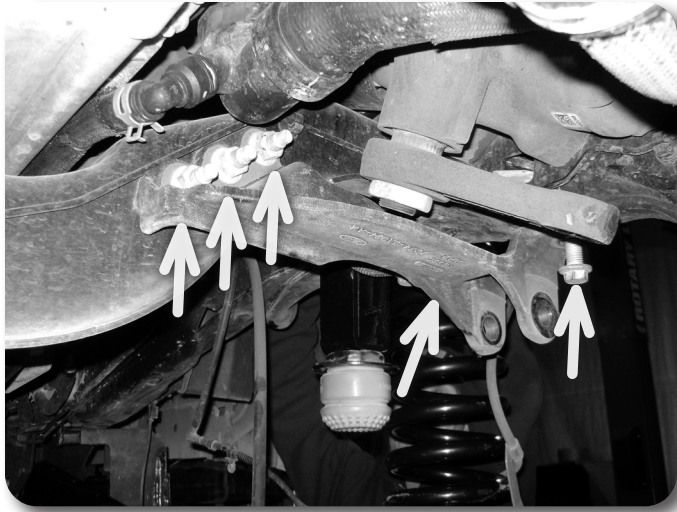

Figure 5
11. Disconnect the (5) bolts mounting the OE track bar bracket to the frame. Remove bracket and retain hardware. **Figure 5**